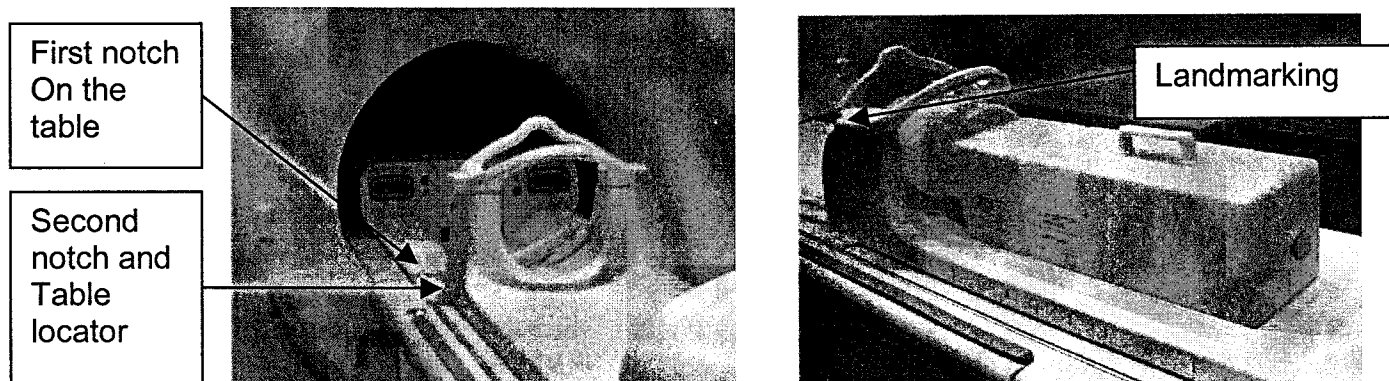

Figure 7: Positioning of the coil and the phantoms on the coil.
2. Place the coil on the patient table. Position coil so that the top table locators on both sides of the coil fit into the second notch from the magnet. Position the phantom set on the coil without the pad. (see *Figure 7*).